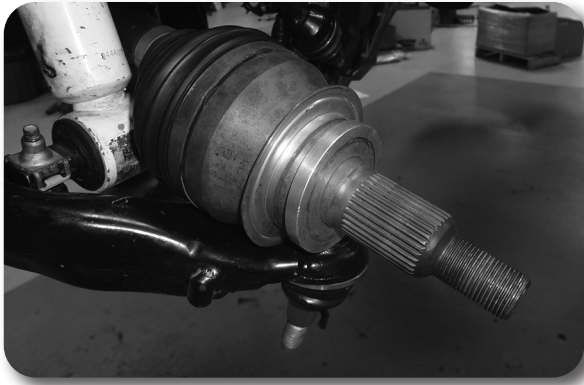
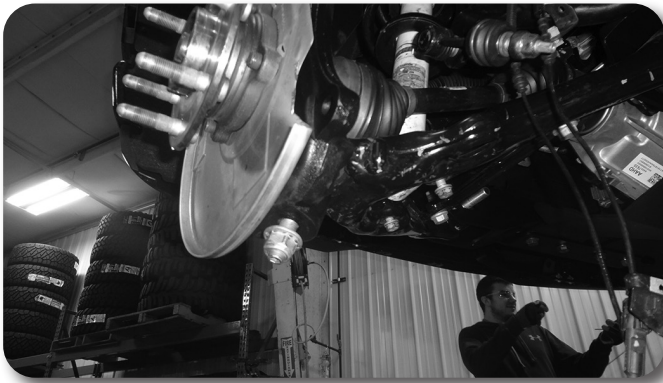

Figure 38A
Figure 38B
57. Install the CV shaft spacer (05037) on the CV stub shaft with the chamfered edge facing towards the inside of the vehicle Fig 38A. Install the assembled knuckle on the lower control arm and loosely fasten with the original lower control arm nut Fig. 38B. Install the CV shaft assembly in the hub, swing the whole assembly up and attach to the new upper control arm to the knuckle assembly using the OE Nylock Nut. Snug up ball joint using the OE Nylock Nut, but do not torque down. The upper ball joint will be removed from the knuckle later so that the strut can be installed.